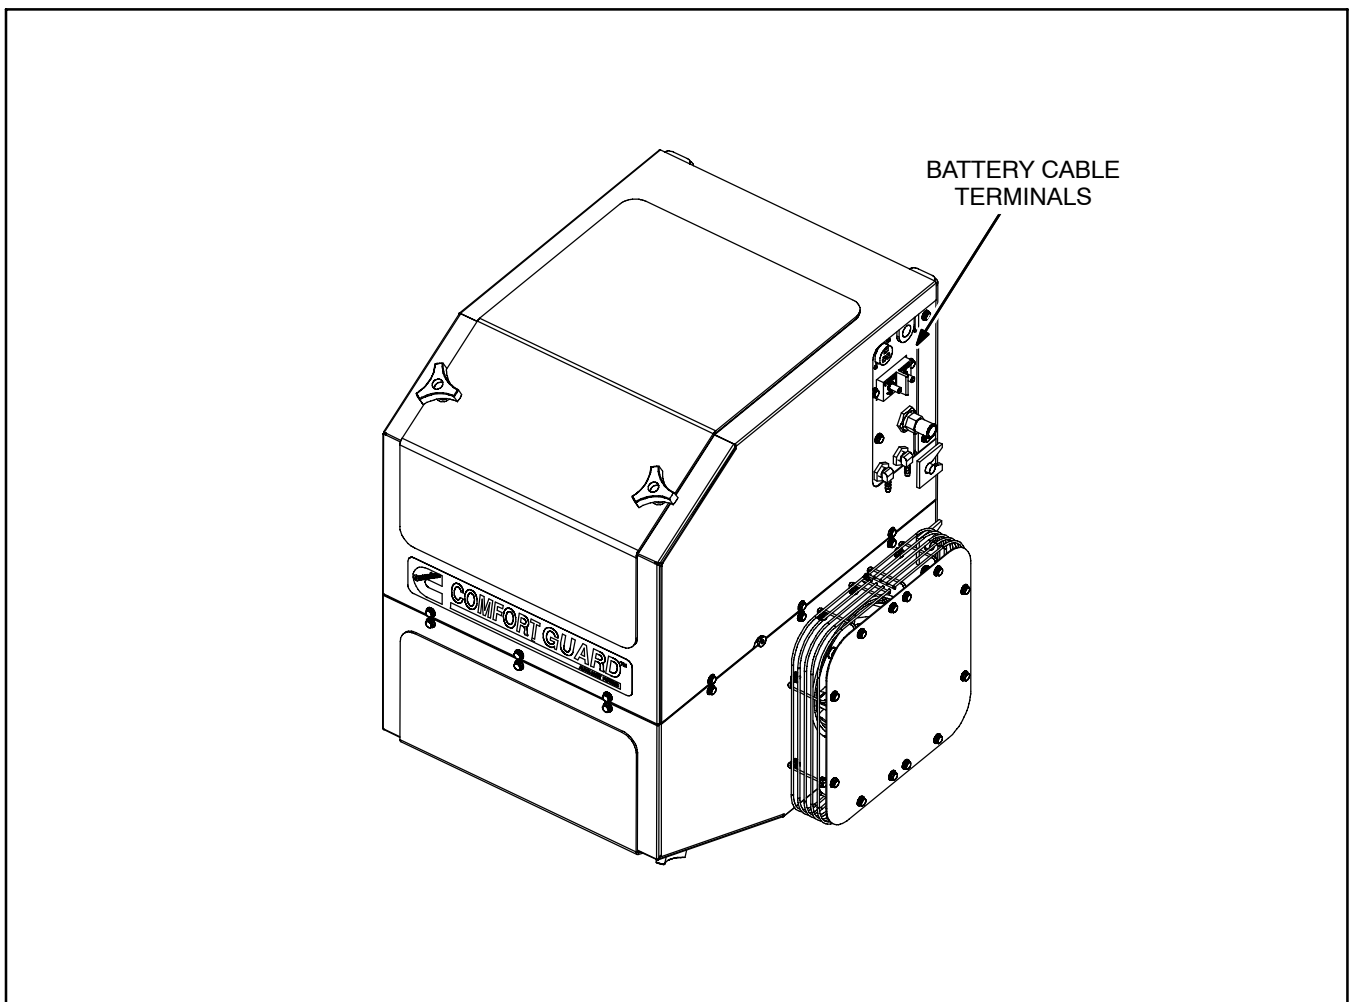

FIGURE 5-4. BATTERY CABLE TERMINALS
2. Remove battery cables with a battery terminal puller. Torque threaded stud battery terminals as recommended by the battery manufacturer. Torque the battery cable terminals on the APU to 7.5 lb-ft (10 N-m). See Figure 5-4.